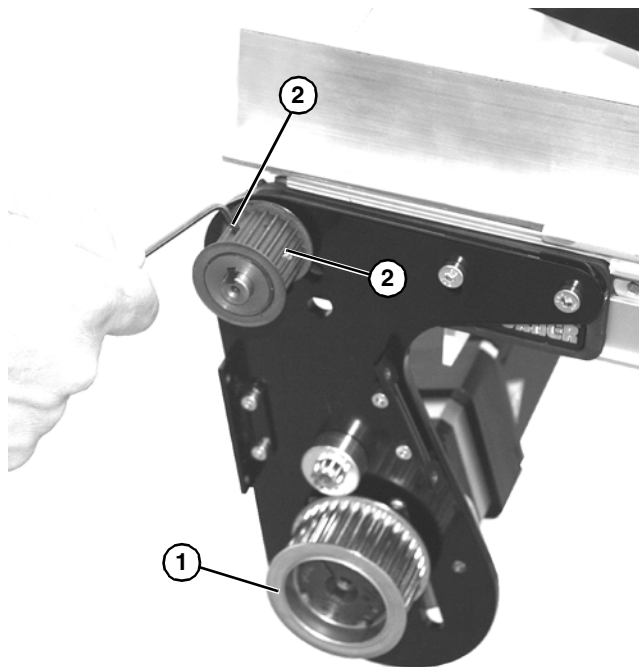

Figure 9
- Using a straight-edge, be certain that driven pulley is flush with drive pulley (**Figure 9, item 1**). Tighten two set screws (**Figure 9, item 2**) onto shaft.